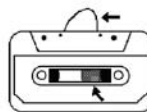

Fig. 1
- Check that there are no loose layers of tape visible through the cassette center window (see Fig. 1). Take up any loose layers, using a pencil or hexagonal barrelled ballpoint pen, before inserting the cassette into the machine (see Fig.2)